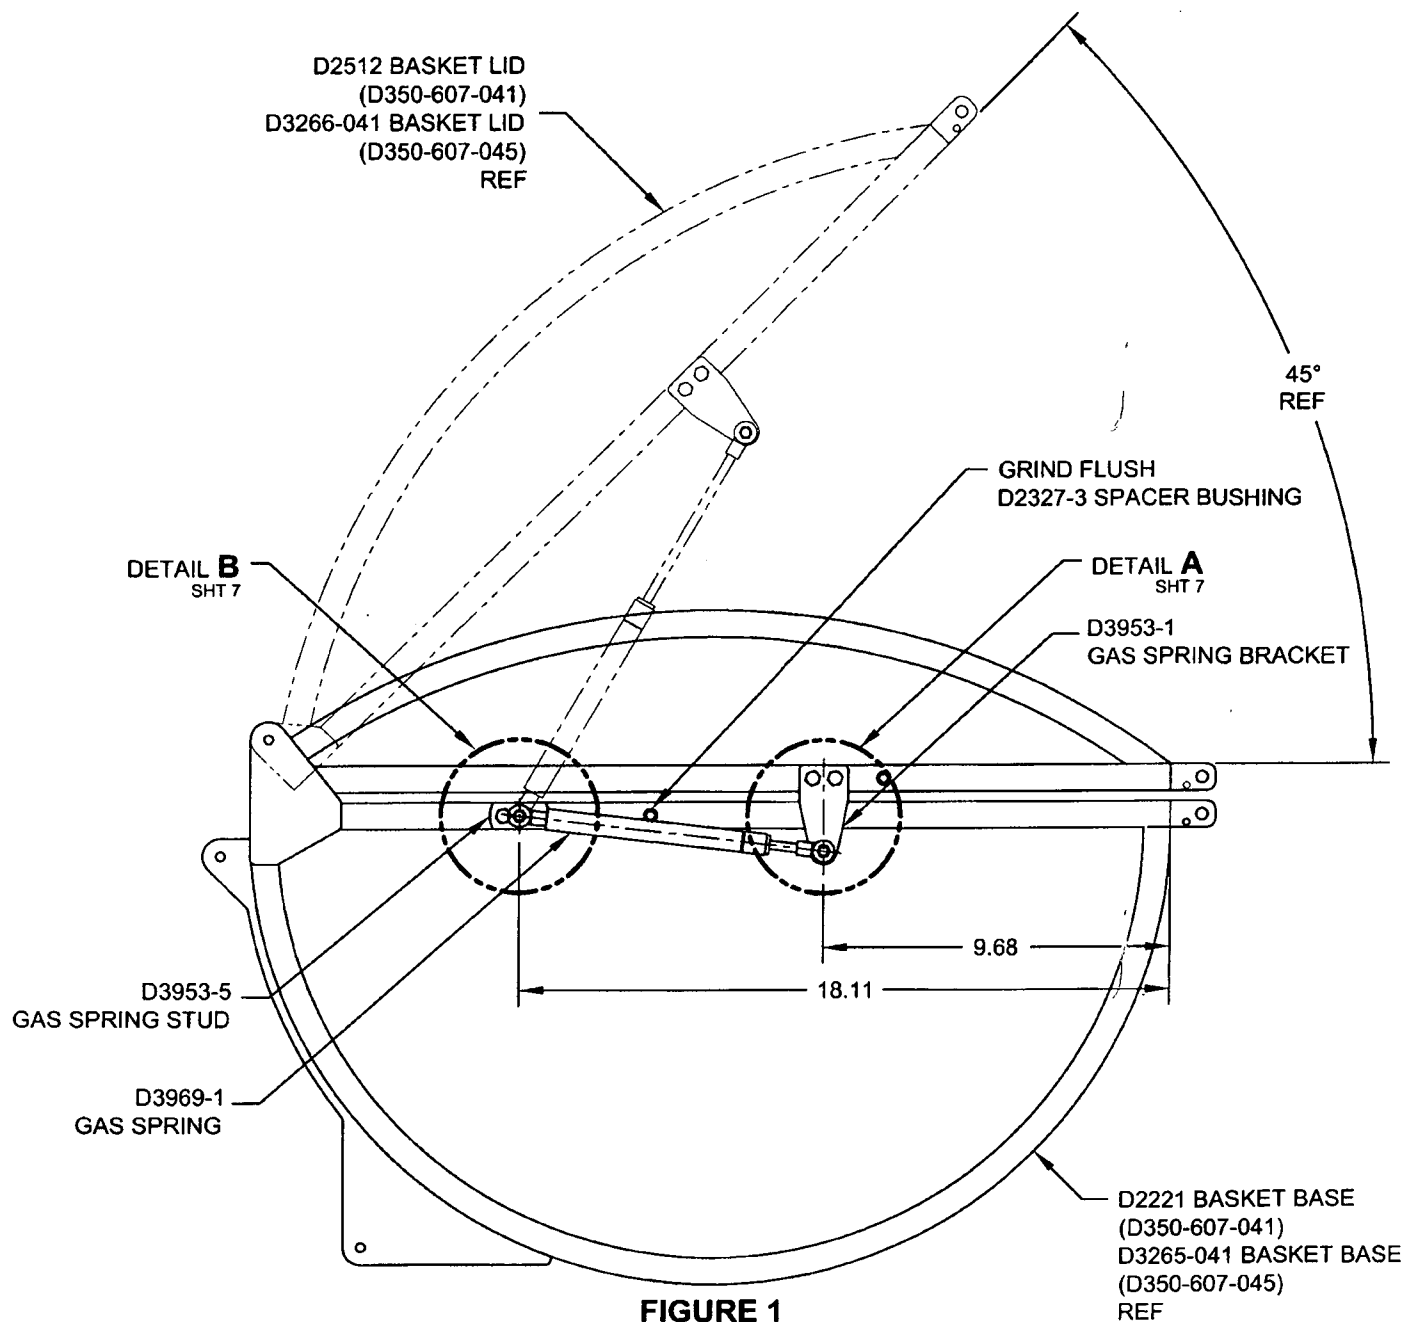

FIGURE 1
- 2) GRIND FLUSH THE D2327-3 SPACER BUSHING ON BOTH ENDS OF THE BASKET AS SHOWN IN FIGURE 1 (IT IS PERMISSIBLE TO GRIND ALL 4 SPACERS FLUSH). TOUCH UP PAINT PER ICA-D350-607 REV. 0 SECTION 5.1 ITEM 4.
- 3) LOCATE THE D3953-1 GAS SPRING BRACKET AS SHOWN IN FIGURE 1. TRIM STEEL MESH LOCALLY AS REQUIRED. TOUCH UP PAINT PER ICA-D350-607 REV. 0 SECTION 5.1 ITEM 4. TRANSFER MARK AND DRILL 2X Ø0.194 HOLES THRU THE BASKET LID SQUARE TUBE STRUCTURE AS SHOWN IN DETAIL A. INSTALL THE D3953-1 GAS SPRING BRACKET & D3953-13 GAS SPRING SPACER USING 2X AN3C16A BOLT, 2X NAS1149C0332R WASHER & 2X MS21043-3 NUT AS SHOWN IN VIEW E-E.
- 4) LOCATE THE D3953-5 GAS SPRING STUD AS SHOWN IN FIGURE 1. TRIM STEEL MESH LOCALLY AS REQUIRED. TOUCH UP PAINT PER ICA-D350-607 REV. 0 SECTION 5.1 ITEM 4. TRANSFER MARK AND DRILL 2X Ø0.194 HOLES THRU THE BASKET BASE SQUARE TUBE STRUCTURE AS SHOWN IN DETAIL E. FASTEN D3953-5 IAW VIEW F-F USING 2X AN3C11A BOLT, 2X NAS1149C0332R WASHER & 2X MS21043-3 NUT.
- 2) GRIND FLUSH THE D2327-3 SPACER BUSHING ON THE END OF THE BASKET WHERE THE LID OPENER IS BE INSTALLED AS SHOWN IN FIGURE 1 (IT IS PERMISSIBLE TO GRIND ALL 4 SPACERS FLUSH). TOUCH UP PAINT PER ICA-D350-607 REV. 0 SECTION 5.1 ITEM 4.
- 4) LOCATE THE D3953-5 GAS SPRING STUD AS SHOWN IN FIGURE 1. TRIM STEEL MESH LOCALLY AS REQUIRED. TOUCH UP PAINT PER ICA-D350-607 REV. 0 SECTION 5.1 ITEM 4. TRANSFER MARK AND DRILL 2X Ø0.194 HOLES THRU THE BASKET BASE SQUARE TUBE STRUCTURE AS SHOWN IN DETAIL B. FASTEN D3953-5 IAW VIEW F-F USING 2X AN3C11A BOLT, 2X NAS1149C0332R WASHER & 2X MS21043-3 NUT.